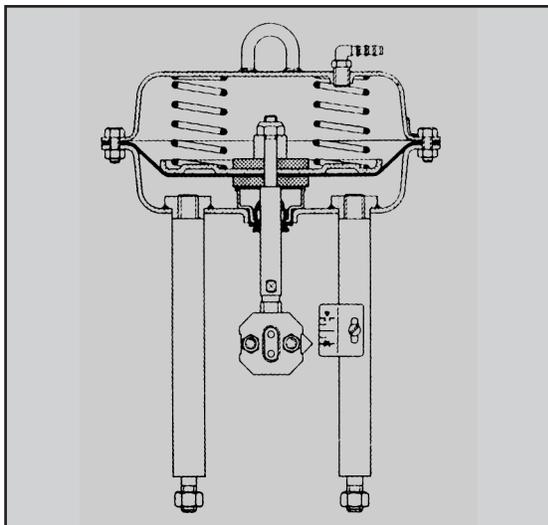

Figure 4: Direct-acting actuator
4. On direct-acting actuators (figure 4) apply sufficient air pressure to the actuator to fully stroke the actuator to nominal travel $\pm 5\%$